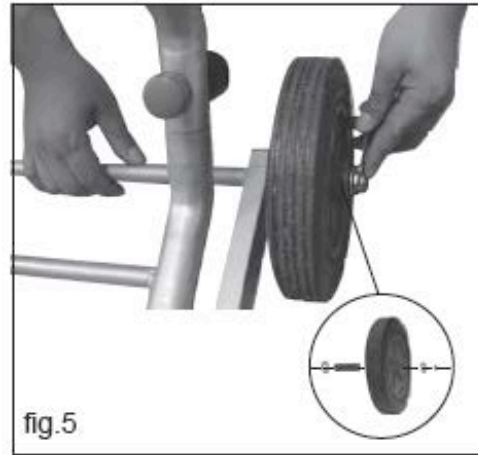

fig.5
- Slide the flat washer M10 (G), roller sleeves (E), wheels (C), and flat washer M8 (H) and nut M8 (J) onto the axle through the hole in the center of the wheel as illustrated. Secure in place using the wrench. (See Fig. 5)